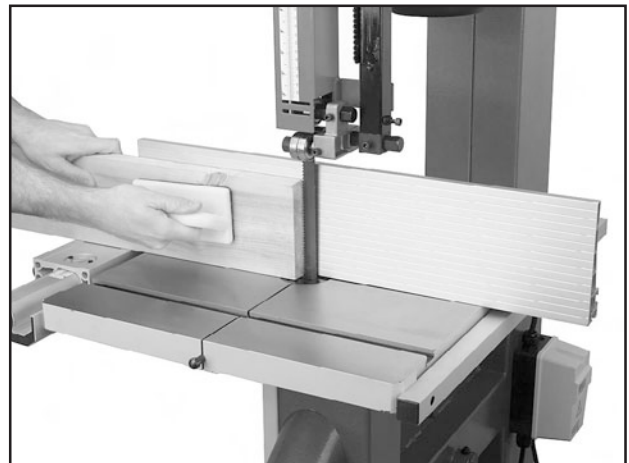

Figure 64. Resawing lumber.
Resawing (**Figure 64**) is the process of cutting a board into two or more thinner boards. The maximum board width that can be resawn is limited by the maximum cutting height of the bandsaw.
6. Using push paddles and a push stick, keep pressure against the fence and table, and slowly feed the workpiece into the moving blade until the blade is completely through the workpiece (see **Figure 64**).